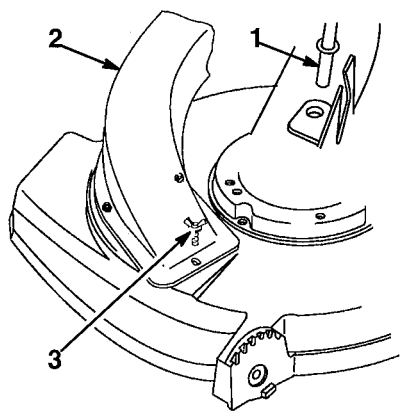

Figure 34
5. Insert chute support rod through hole in right side of deck (Fig. 34).
6. Two shoulder bolts on the mower housing protrude through slotted holes in the chute assembly and do not have to be loosened or removed. Chute assembly moves over the shoulder bolts (Fig. 34).
8. Secure with wing screw (Fig. 34).